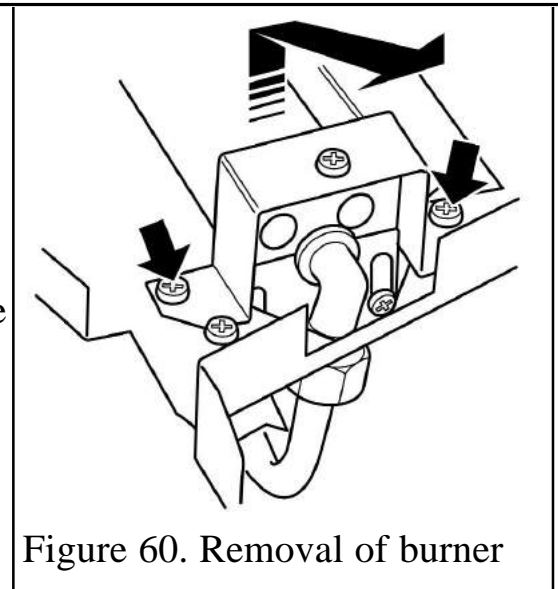

Figure 60. Removal of burner
(See figure 60).
3. Remove the two screws from the burner clamping plate (See figure 60)